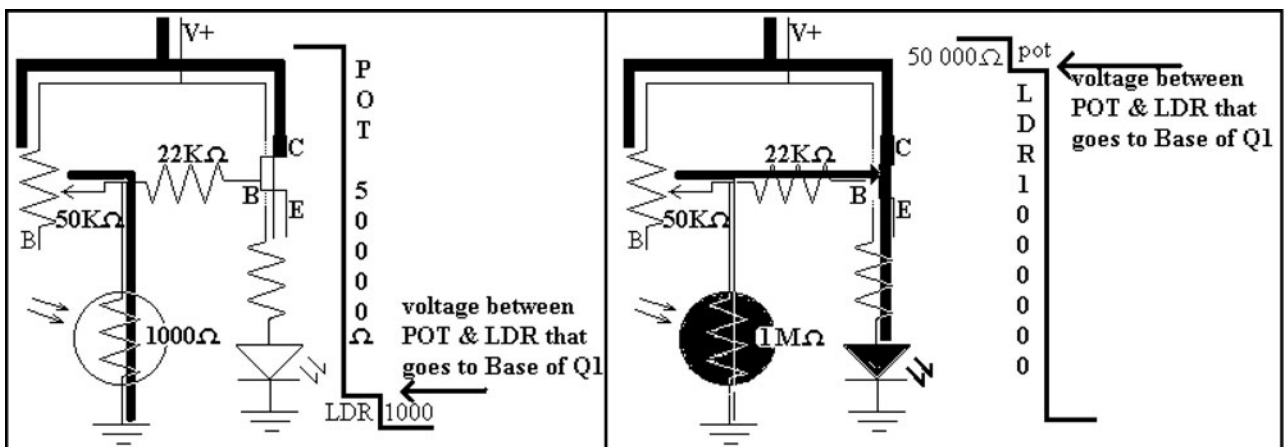

Figure L12-5
4. Okay. Figure L12-5 will help explain how all the voltage in this circuit is used.